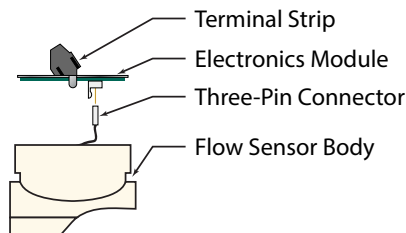

Figure 20: Electrical connection
- ◊ If the flow rate is sufficient, partially remove the electronic module. Check that the three pin connector that connects the electronics module to the flow transducers is positively connected. See *Figure 20*. Align and insert the connector on to the bottom of the electronics module if it is disconnected.